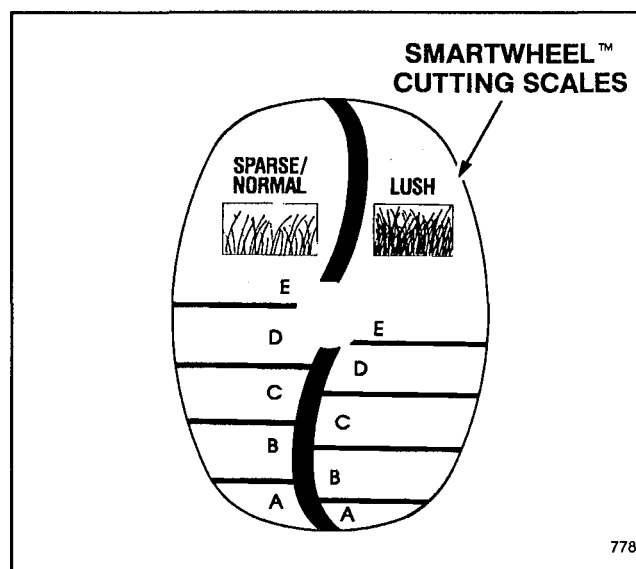

Figure 11
1. Before starting the engine and beginning to mow, push the mower into the grass. Stop when the words SPARSE/NORMAL and LUSH are upright on the SmartWheel design on the rear left wheel (Fig. 11).
2. Using the color coded SmartWheel design (Fig. 11), compare the tips of the grass blades to the colors/letters on the wheel. Whichever color/letter the tips of the grass blades correspond with is the proper cutting height.